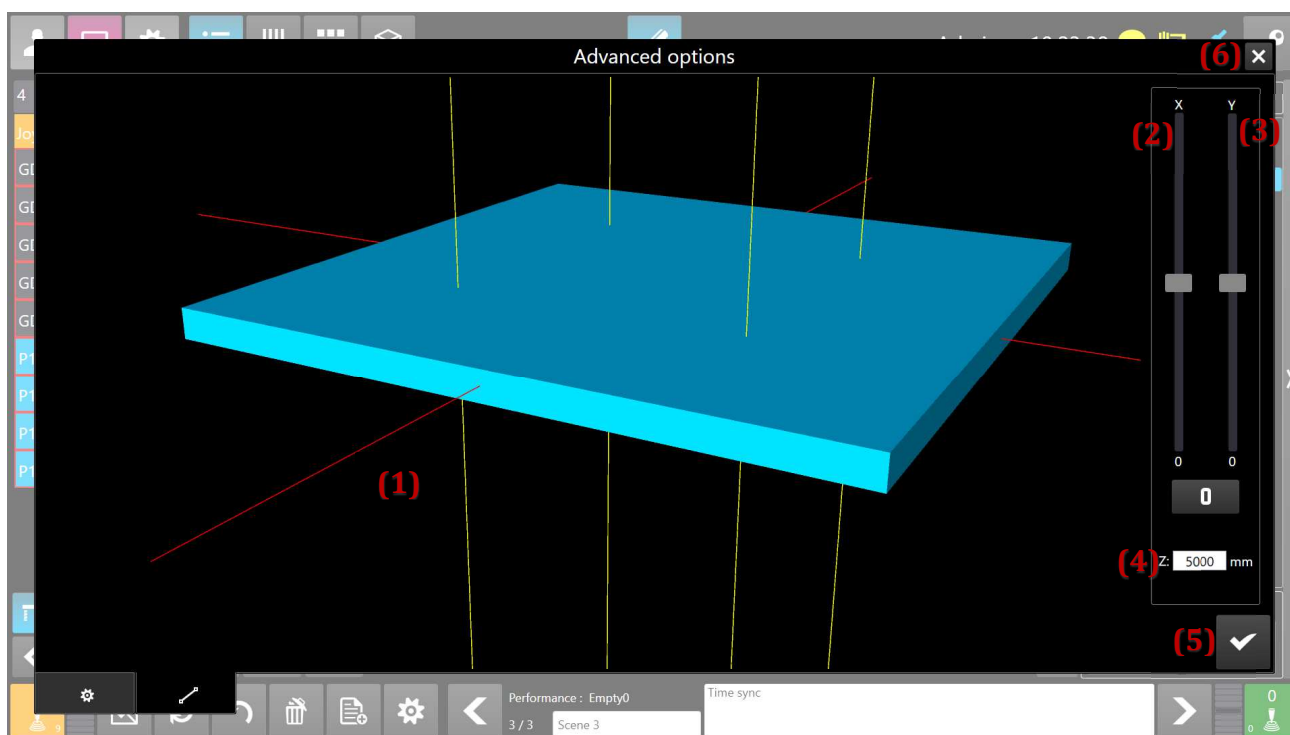

FIG. 39: WINDOW SETUP OF TILTED PLANE – OBJECT IS STRAIGHT
If one of the objects of the scene contains point hoists, the system aids the operator with proper tilting of hoisted plane objects / decorations. The aid can calculate target positions of the point hoists for the tilt angle input. Settings of the tilted plane is located in the same window as advanced options settings and functions, described in the previous chapter. After opening the window by clicking the button of the bottom bar (Fig. 24 – (8)), we can switch to the bookmark (Fig. 39 – (1)) that contains the components to set the tilt angle up. This button is displayed only when the selected device(s) type is point hoist. If any other device is selected, the button is hidden.
Contents of the tilted plane window is described in the table and picture below (Fig. 39).